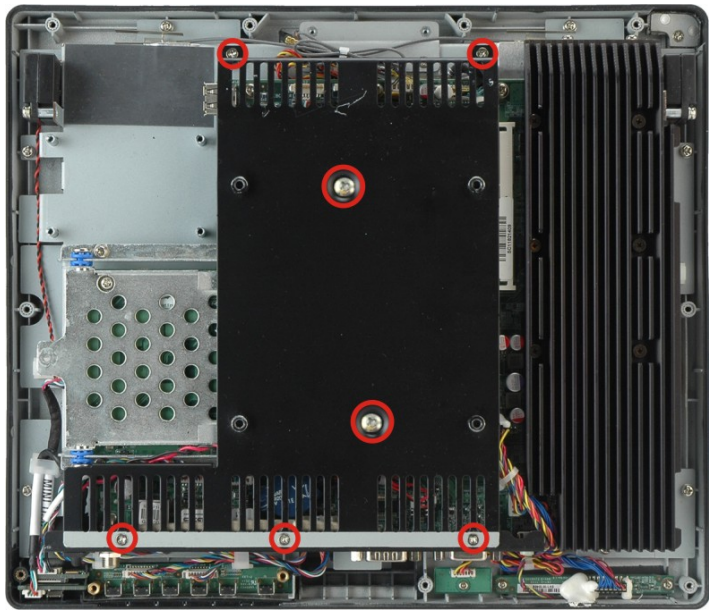

Figure 5-2: Internal Cover Retention Screws
Step 1: Remove the seven (7) retention screws securing the internal aluminum cover to the chassis (**Figure 5-2**).